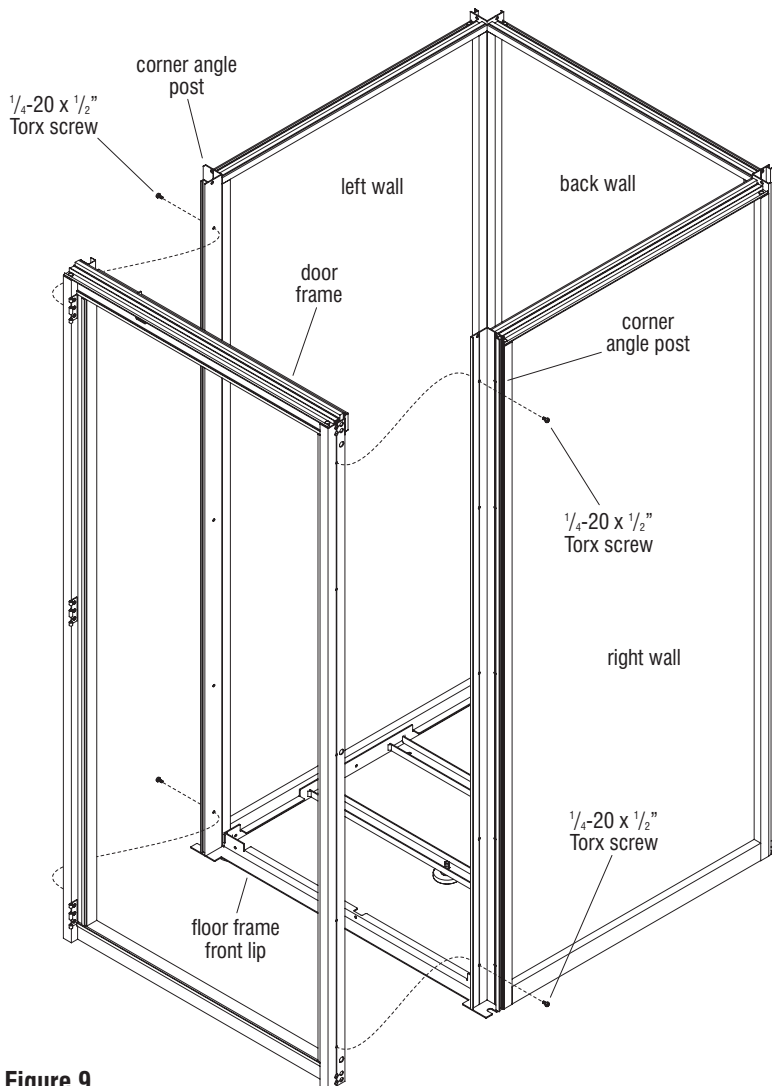

Figure 9
6. Position the door frame to the front of the pod, on top of the floor frame front lip as illustrated in Figure 9. Using a T-30 bit and cordless power drill, loosely secure the door frame to the appropriate corner angle post utilizing the top and bottom mounting holes, using two 1/4-20 x 1/2 inch Torx screws each (Figure 9 & Detail J).